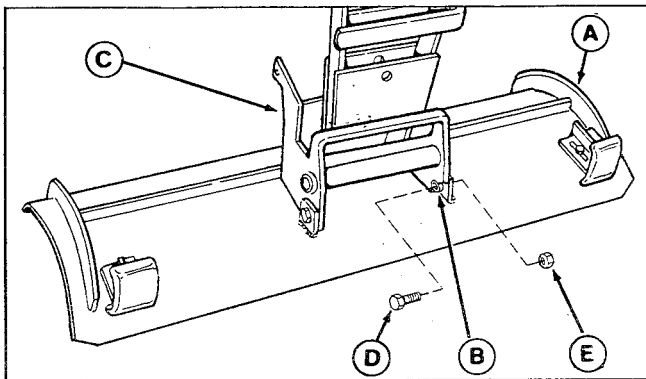

Figure 1.
1. Insert one spacer (B) in each one of the two mounting holes in the push bar (C). Position the push bar between "mounting ears" on backside of blade. Push the 1/2-13 x 1 capscrews (D) through as shown and install locknuts (E). Torque locknuts to 75 ft. lbs. (103 Nm). See figure 1.